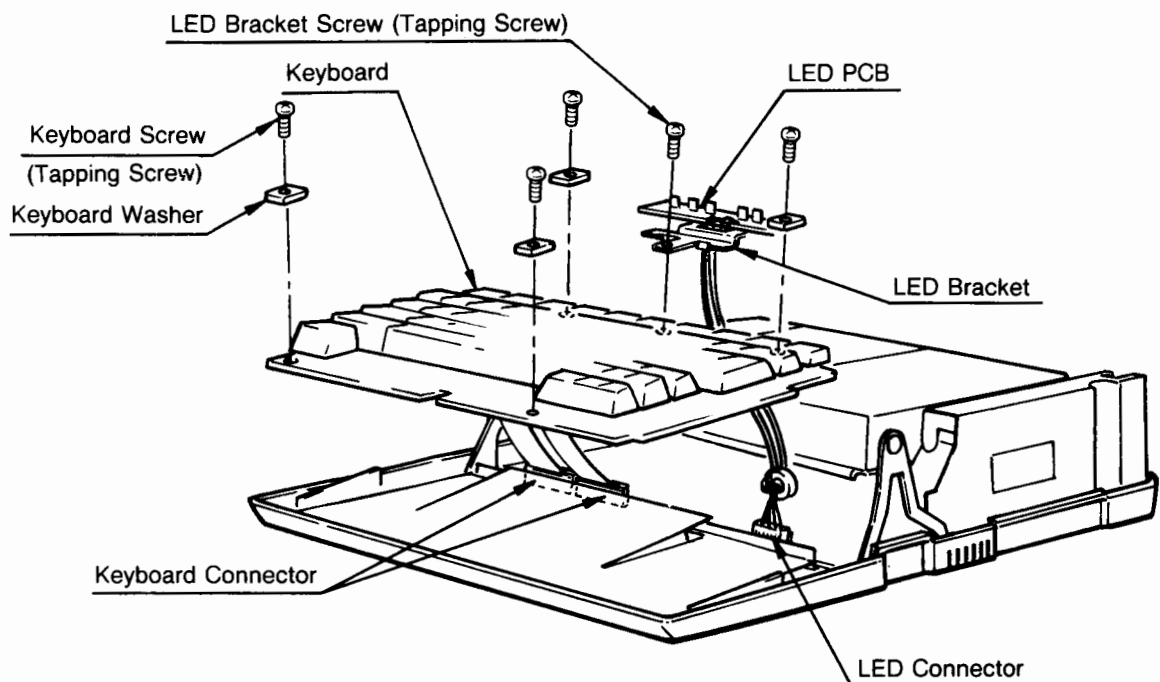

Figure 2-11. LED PCB and Keyboard Removal
- (1) Remove four Keyboard screws. (Figure 2-11)
- (2) Remove the LED Bracket screw.
- (3) Remove the LED connector from the Main PCB and remove the LED unit.
- (4) Remove two Keyboard connectors from the Main PCB and remove the keyboard.